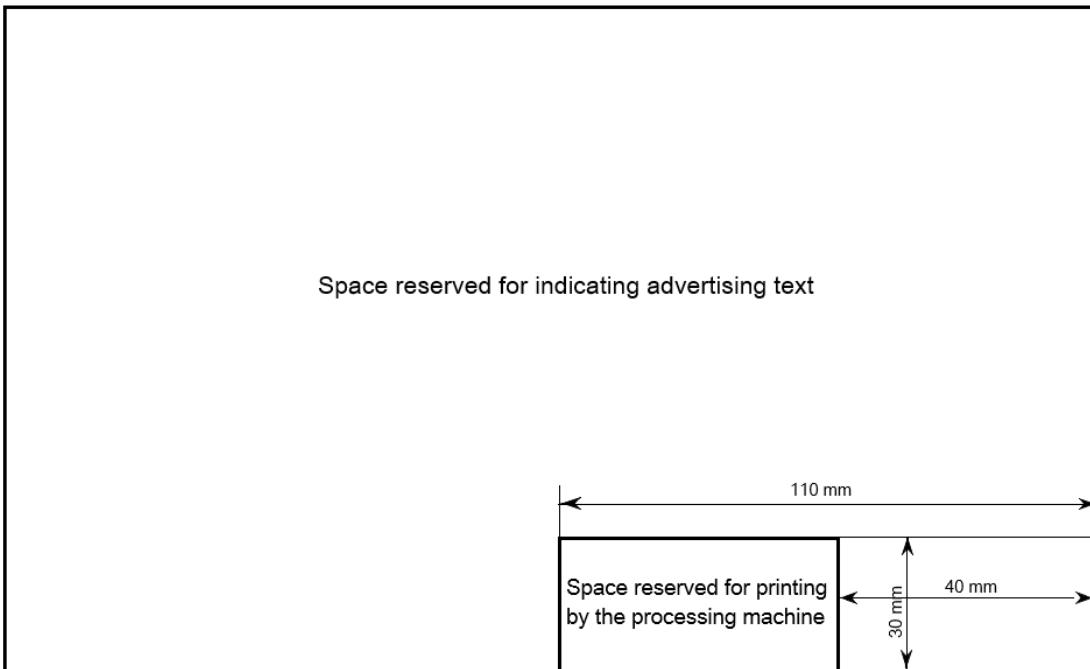

Figure 19: Area on the back of ordinary and medium-sized items (not to scale)
- e) Space reserved for barcode in postal processing (used in the automated processing system) (*marked green in Figure 19*).
- d) The lower, marked area of the back of the item is reserved for printing by the processing machine (see Figure 19) and the remaining area may be used for indicating advertising text in its entirety.
The area shown in Figure 19 on the back of letter-mail items may be used for advertising text and graphics whose contents comply with the provisions of Act XLVIII of 2008 on the basic requirements of and certain restrictions on commercial advertising activity (the Advertising Act).